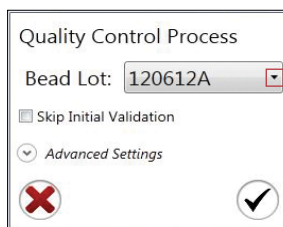

Fig. 2. Quality Control Process window with bead lot dropdown arrow selected.
4. Select your Bead Lot in the Event Based Alignment Settings window and click the **checkmark** (Figure 2). The software will perform both event-based alignment and drop delay setting.